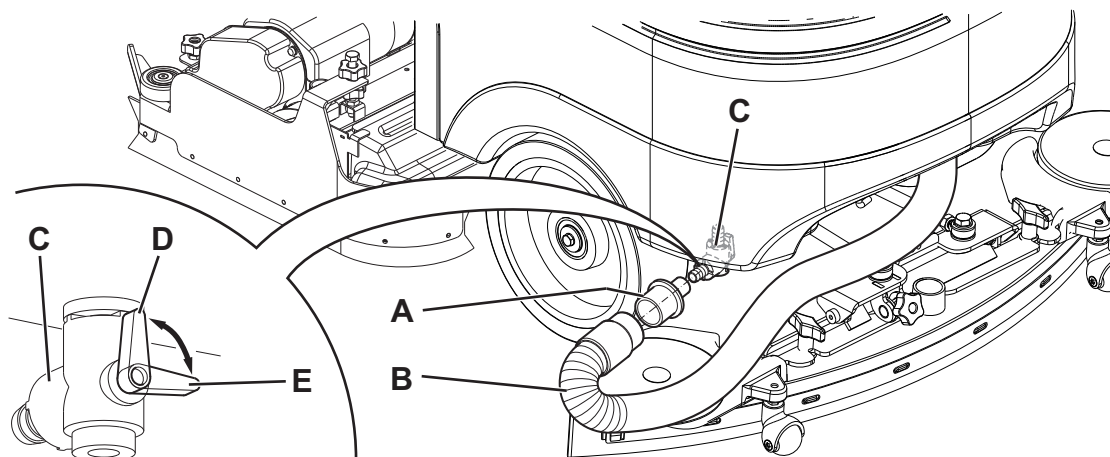

Figure 5
The display (C) shows the detergent concentration level in the solution as shown in the table in Figure 5.
8. Remove the adapter (45) from its housing inside the battery compartment.
9. Install the adapter (A, Fig. 5) on the squeegee vacuum hose (B), then fasten it to the drain valve (C).
10. Turn the ignition key (58) to "I" and turn on the vacuum system with the switch (63).
11. Open the drain valve (C) to drain the tank (22).